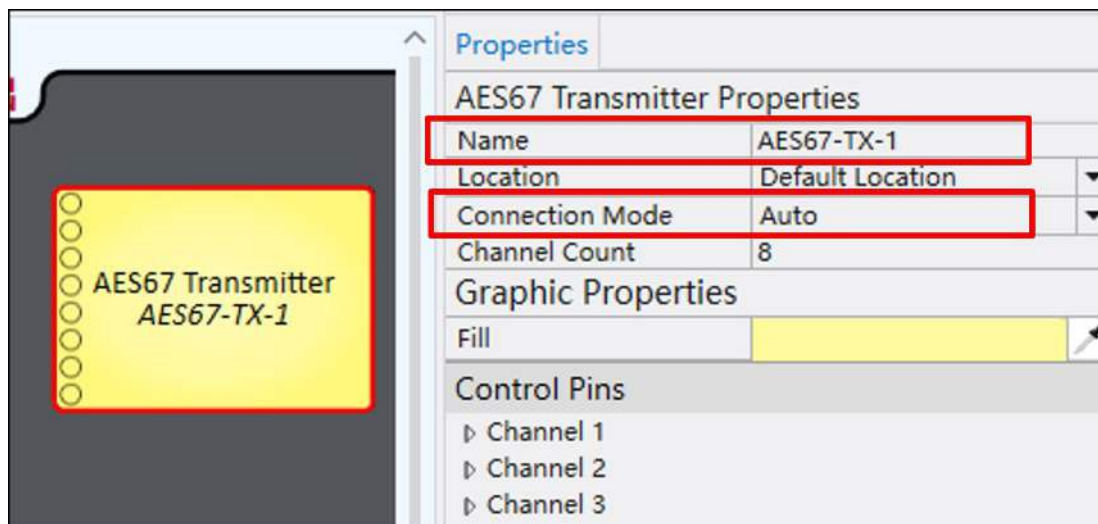

Figure 18: Create AES67 transmitter on Q-SYS Core
Open the **Q-SYS Designer** software and create an AES67 Transmitter (TX) block. Provide the **Name**, set the **Channel Count** to "8" per block and make sure the **Connection Mode** is set to "Auto", as shown in **Figure 18**. It will automatically generate 8 channel AES67 streams named after the TX block. Similarly, you can transmit upto 32 channels to the AE-6703 device (using 4x AES67 TX blocks).